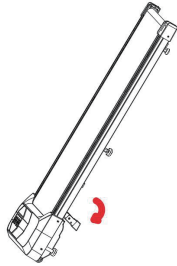
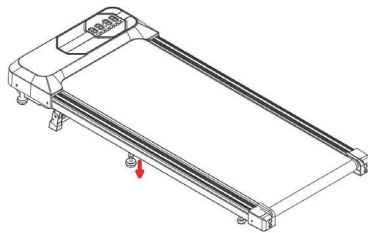

Figure 1
Figure 2
4. Incline adjustment: machine vertical, with a foot in the direction of the arrow in Figure 1 to kick open the adjustable incline structure, and then make the middle foot cushion down to fit to the ground, as shown in Figure 2, so that you can realize the machine with a slope. If you don't need the slope, the operation is just the opposite. **Note: When adjusting the slope, be sure to disconnect the power.**